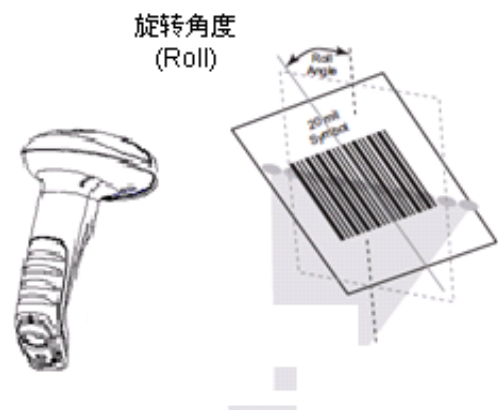

Fig. 1-15
- ◇ Roll : $\pm 30^\circ$, 0° Pitch and 0° Skew (Fig. 1-15)